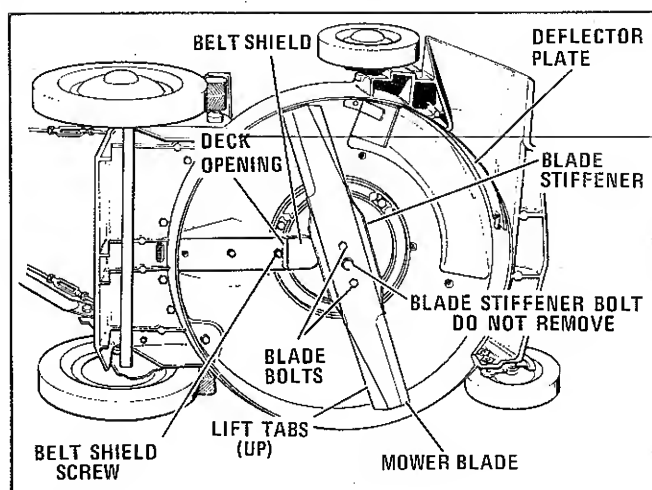

Figure 7
3. Install the grass deflector plate across the chute opening with bolts and nuts as shown in Fig. 7, and tighten securely. Replace the spark plug wire.
3. Remove 2 hex nuts from the blade stiffner to remove blade bolts. See Fig. 7.
2. Place blade in blade stiffner with center hole in blade over bolt holding drive to crankshaft. See Fig. 7. Install with lift tabs on blade toward engine.
6. Remove the belt shield screw shown in Fig. 7.
8. Remove the old belt from pulley and push through the deck opening. See Fig. 7.
17. Insert the belt shield through the mower deck opening and hold against the deck. See Fig. 7.